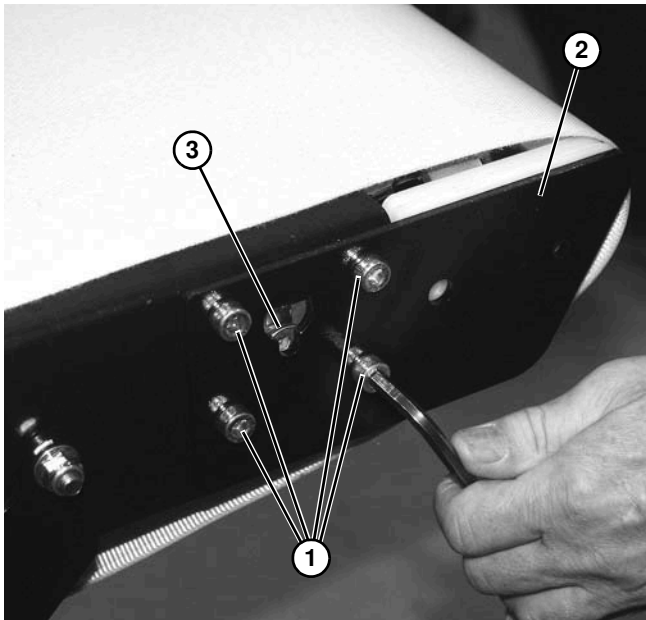

Figure 129
3. Remove four screws (**Figure 129, item 1**) and nose bar tail cover plate (**Figure 129, item 2**). Repeat on the opposite side of conveyor.
*The tracking cam (**Figure 129, item 3**) may fall out when cover plate is removed. Retain tracking cam for the next step.*